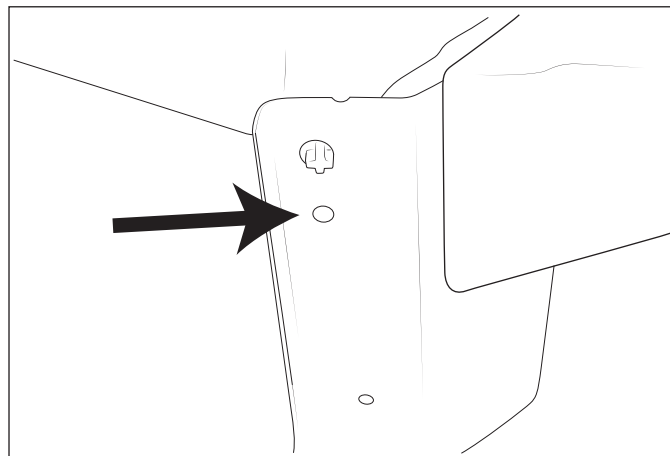

Figure 24
- F. The plastic locating pin will go into the existing hole in the bottom lip of the bedside. Drill a 1/4" hole placed one inch from center of plastic locating pin towards the rear of the vehicle for a screw (fig. 24).